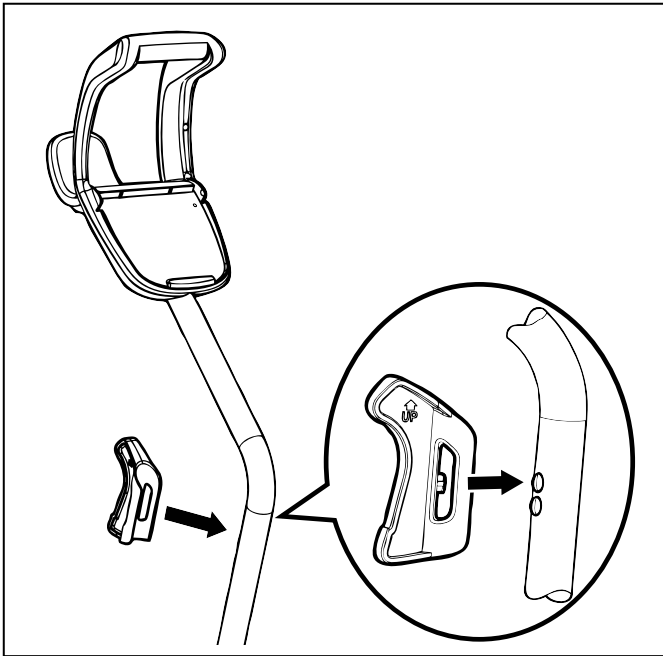

Figure 7. Snap Cleaner Hook into Place
- Align cleaner hook pins with the top holes in the handle tube and snap into place (Figure 7).